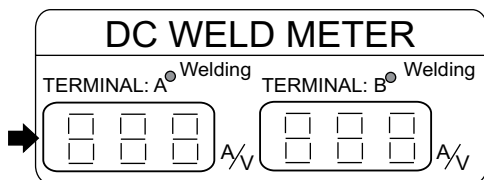

Figure 97. DC Weld Meter Error Codes
1. This unit is equipped with **protection** devices. When any of the **major** protection devices are activated, the engine will **automatically stop** and the error code message will be displayed on the DC welding current meter (Figure 97).